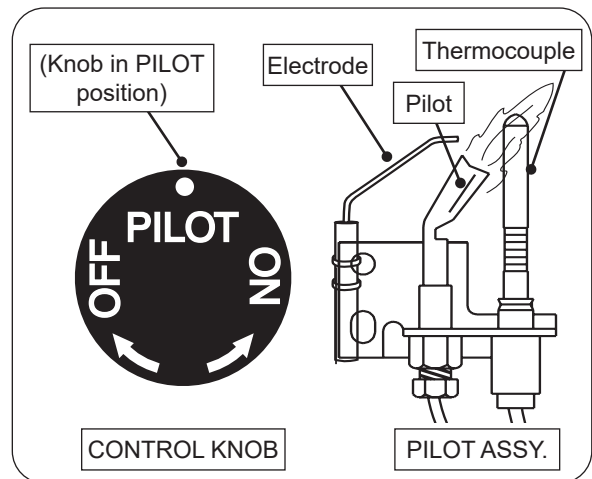

Fig. 19-1 Pilot lighting
3. Locate the pilot assembly on the side or the rear of the burner pan (see Fig. 19-1).
4. Turn the control knob counterclockwise to **PILOT**. Push the knob **firmly and fully** in and hold. Push the piezo igniter button several times until the pilot lights. Continue to hold the knob in for about one (1) minute after the pilot is lit. Release the knob and it will pop back out. The pilot will remain lit. See Fig. 19-1. If it goes out, repeat steps 2-4.